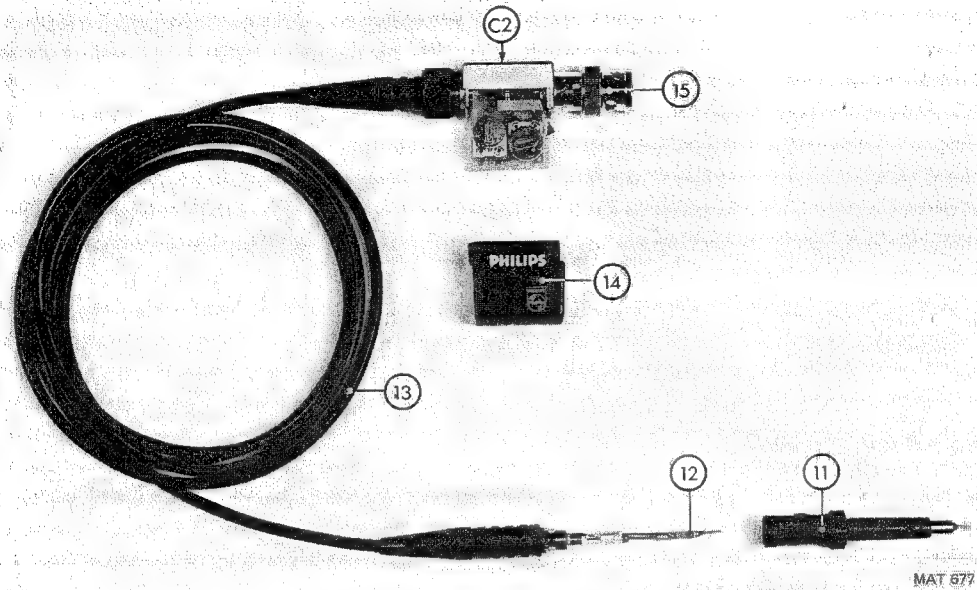

Fig. 1.10. Dismantling the probe
Dismantling the probe (see Fig. 1.10.).
Dismantling the compensation box (see Fig. 1.10.).
1.4.5.1. Mechanical parts (see Fig. 1.10. and 1.11.).